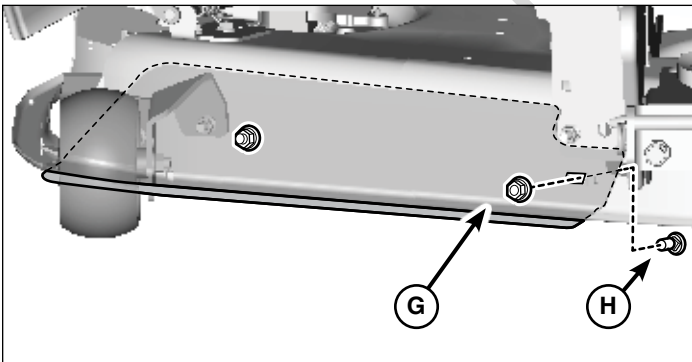

Figure 6
3. Attach the left side of the baffle with a carriage bolt (H, Figure 6) and a whiz lock nut (G). Make sure the blade does not come in contact with the baffle.